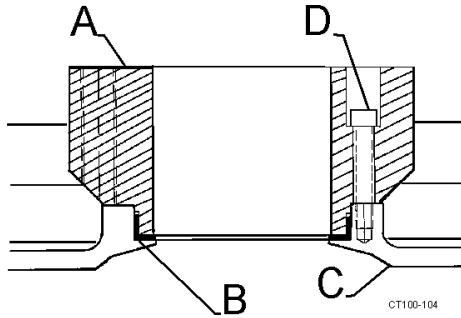

Figure 58 - Insert L-gasket and Fasten Adapter in Place
5. Insert L-gasket into the backplate. (Figure 58, items B and C).
6. Insert cartridge adapter (Figure 58, item A) into the backplate (Figure 58, item C) and tighten with four socket head cap screws.(Figure 58, item D).